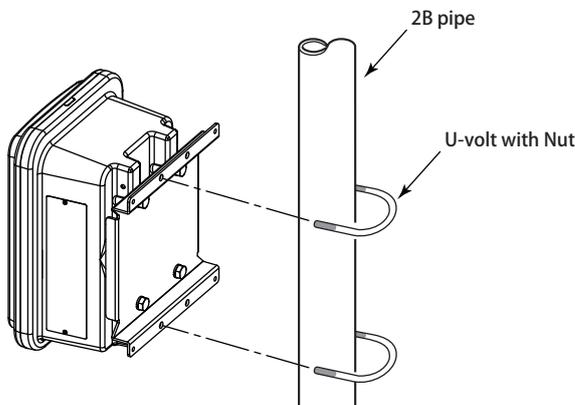

Figure 3.1 Pipe Mounting
- (1) Prepare a vertical pipe of sufficient strength (nominal JIS 50A: O.D. 60.5 mm) for mounting the converter. (Converter weighs approximately 16 kg.)
- (2) Mount the converter on the pipe. Fix it firmly on the pipe in the procedure described in Figure 3.1.